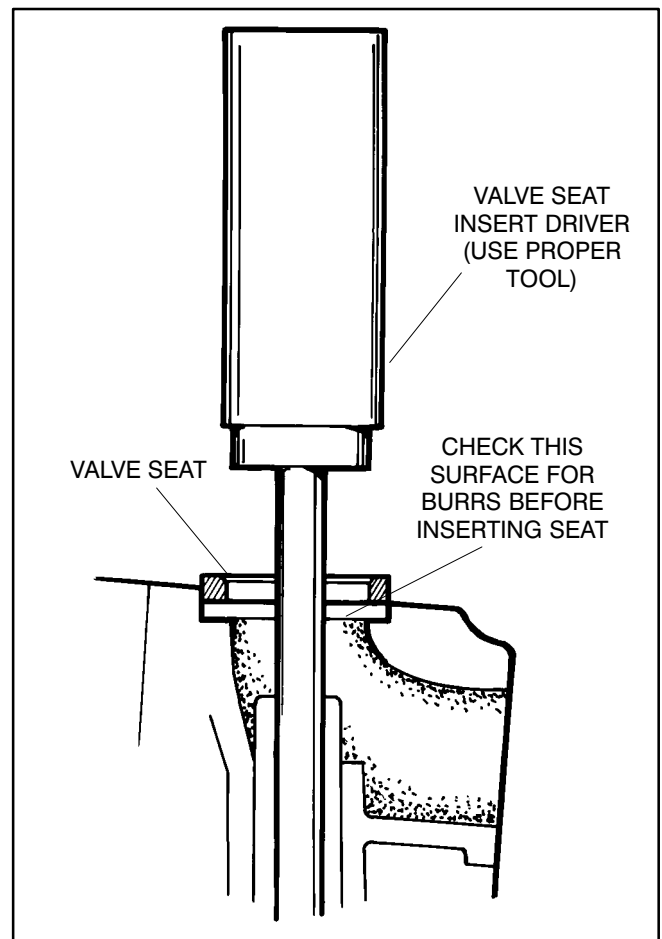

FIGURE 7-11. INSERTING NEW VALVE SEAT
2. Insert the pilot of the driver into the valve guide hole in the cylinder block. Quickly drive the valve seat insert in, so that the insert goes evenly to the bottom of the recess in the cylinder block. Make certain that the valve seat insert rests solidly on the bottom of the recess all the way around its circumference (Figure 7-11).